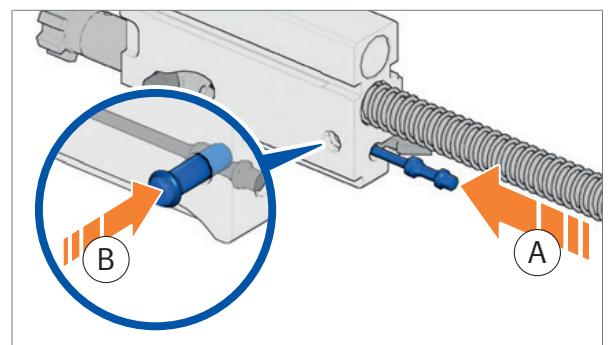

Fig. 122: Insert firing pin
4. Insert firing pin into bolt head carrier (*Fig. 122*).
5. Push locking pin into bolt head carrier (*Fig. 122*).